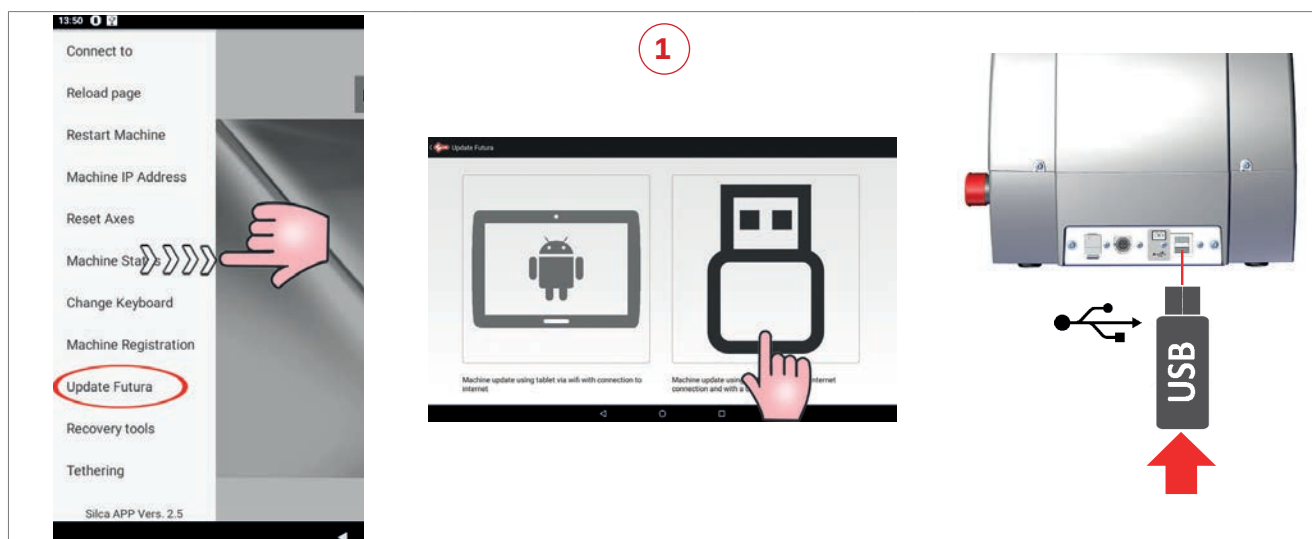

Fig. 20
- 1) Select “Update Futura” from the drop-down menu and tap the USB PEN image (Fig. 20). Insert the USB PEN DRIVE into the machine and follow the instructions on the screen.